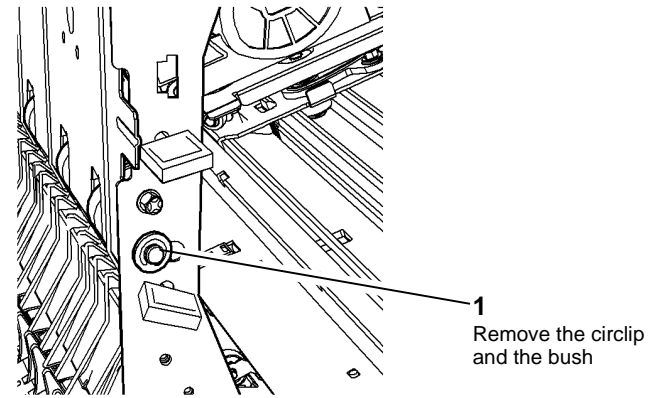

Figure 1 Circlip and bush removal
3. **Figure 1.** Remove the circlip and the bush from the outboard end of the roll.